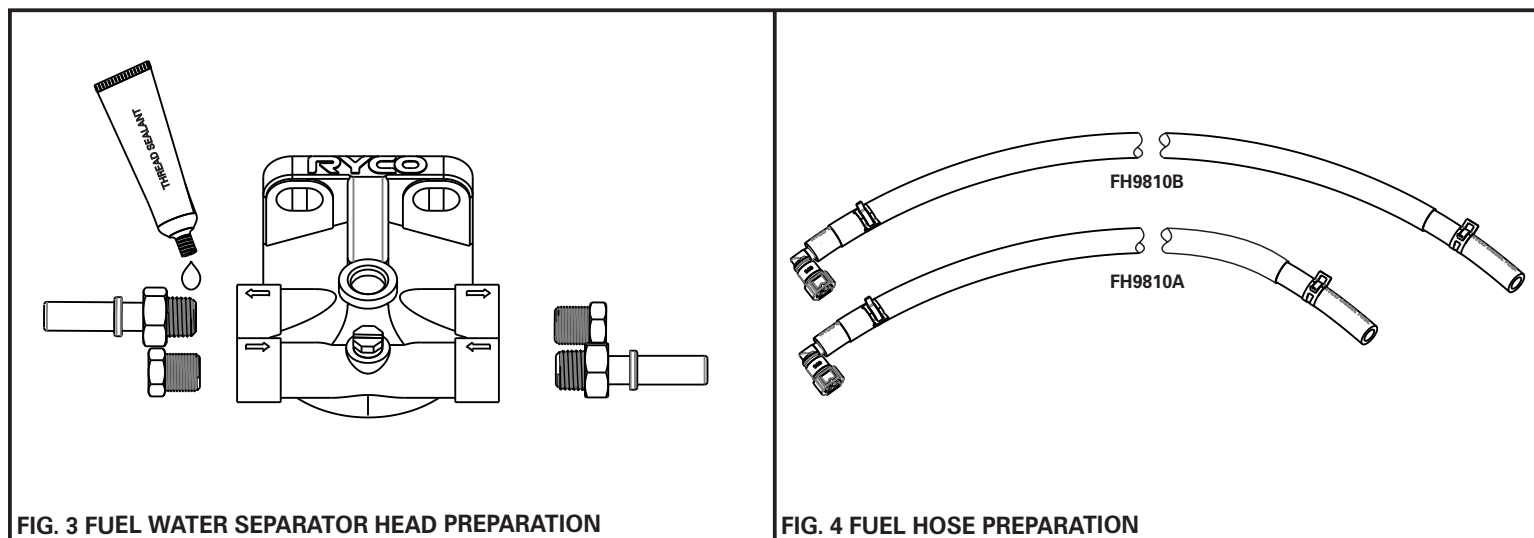

FIG. 3 FUEL WATER SEPARATOR HEAD PREPARATION
3. Apply the supplied thread sealant to the thread of the blanking plugs and the quick connectors. Install them as per Fig. 3, ensuring they are tight.